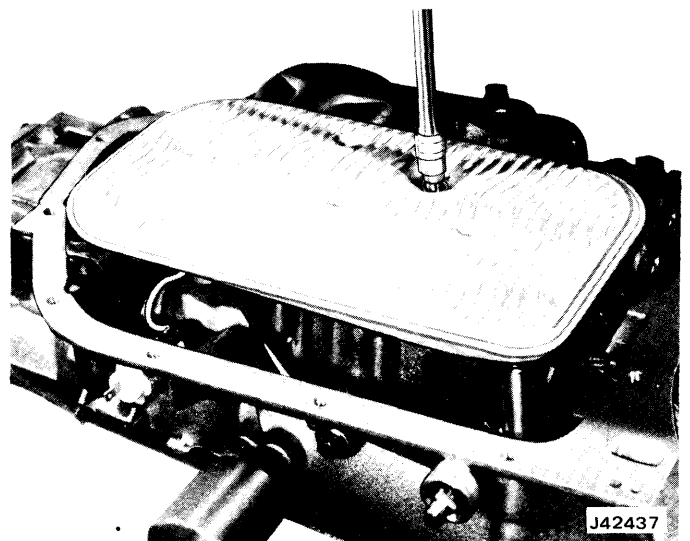

Fig. 7-8 Removing—Installing Oil Filter
(4) Remove oil filter retainer bolt and remove oil filter and intake pipe (fig. 7-8). Discard filter.
(5) Remove intake pipe-to-case O-ring from intake pipe or case. Discard O-ring.